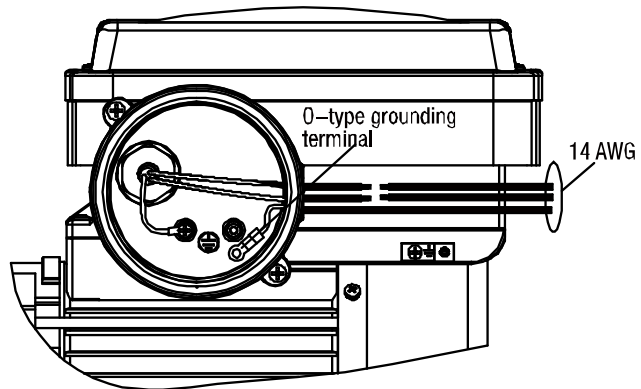

FIG. 2
- Use multifunction crimping pliers to press O-type grounding terminal which connects 14 AWG. (FIG.2)